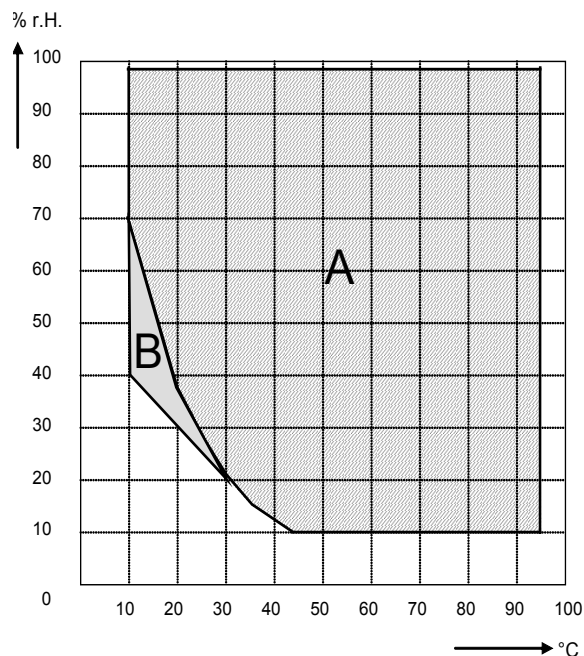

Figure 16: Temperature-humidity diagram MKF / MKFT
The MKF / MKFT environmental simulation chamber is equipped with a capacitive humidity sensor. This results in a regulatory accuracy of up to  $\pm 2.5$  % r.h. of the set point. The temperature-humidity diagram (Figure 16) shows the possible working range for humidity.
When switch Humidity ON / OFF (4) (located on the lateral control panel) is in position ON, the environmental simulation chamber MKF / MKFT dehumidifies as needed in order to reach the entered humidity set-point inside the Control range of temperature and relative humidity (Figure 16).
With temperature set-points outside the control range (hatched area in Figure 16), humidification and dehumidification are automatically turned off. If the humidity system is turned off while there are descending temperature curves, then operation of the refrigeration system may cause dehumidification of the charging material.
With humidity set-points outside the control range (hatched area in Figure 16), or with entry of set-point 0 % r.H., the humidification and dehumidification system is turned off even if the humidity switch is in position ON.